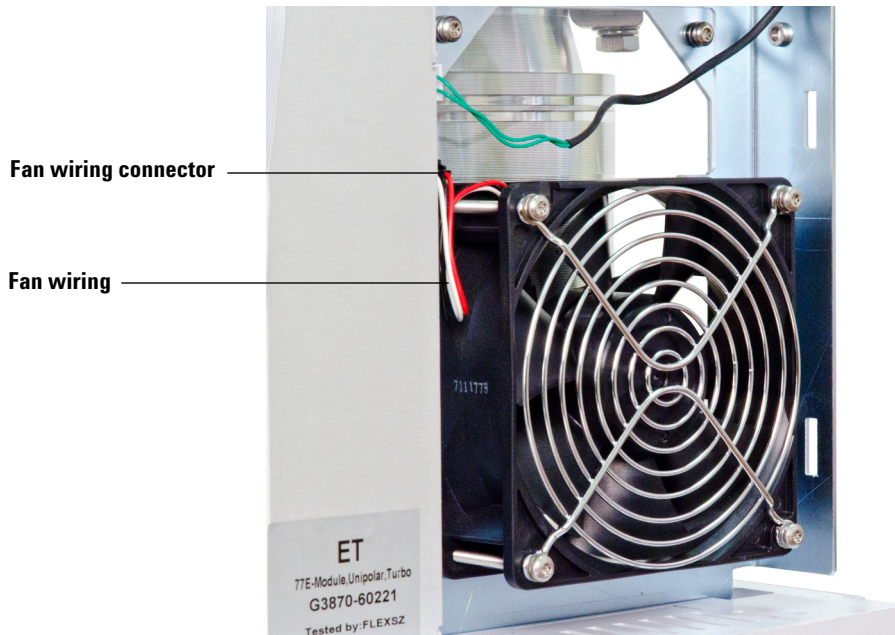

Figure 17 Replacing the pump fan (turbo pump shown)
- 3 Disconnect the fan wiring from the connector on the MSD frame (See Figure 17 on page 125).